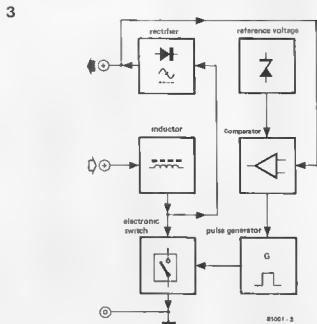

Figure 3. DC to DC conversion where the output voltage is compared to a reference voltage to determine the pulse repetition of the chopper.
3. The third method constitutes a compromise between the two with respect to the value of inductance required. Here, the DC input voltage is again chopped before being rectified and smoothed, but this time the output level is monitored and compared with a reference level. In turn, the comparator controls the switching speed of the chopper so that a steady output voltage is maintained. The principle of the above is shown in figure 3. By using this method the circuit requires a relatively small coil with few turns thereby making the device more compact than if a full sized transformer were used.
The complete diagram of the DC to DC converter is given in figure 4. The control circuit consists of a reference voltage source (R4, D1 and C3), a comparator (opamp IC1) and a 555 timer (IC2) connected as an astable multivibrator (or, more accurately in this instance, as a pulse generator). Transistors T3...T5 (connected in parallel) form the electronic switch shown in the block diagram (figure 3).